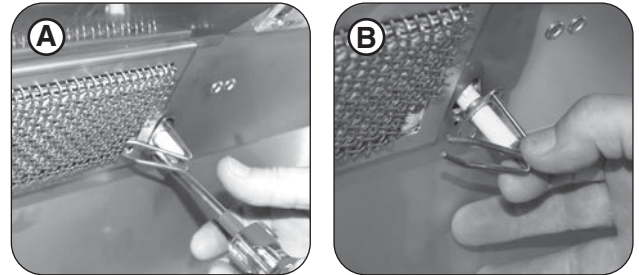

Fig. 38-2 Remove electrode
1. Remove the backburner electrode mounting screw (1/4" hex) (see Fig. 38-2, A) and loosen the electrode. Carefully pull the electrode assembly slightly from the grill wall to give enough clearance for the backburner to be removed (see Fig. 38-2, B).